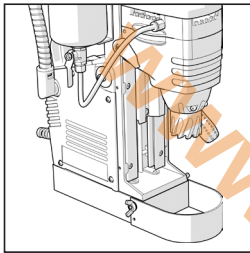

Fig. 2
- Attach the Safety Guard and secure in place using the supplied fixing screws. **(Fig. 2)**